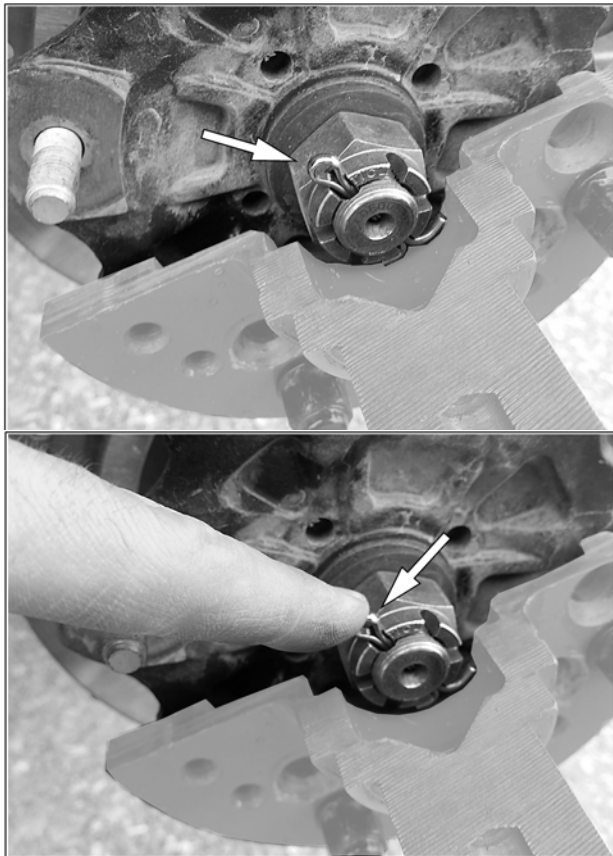

Fig. 17
- Bend head of cotter pin down toward castle nut to avoid interference with track system hub during installation. There must not be any resistance when track system is installed on vehicle's wheel hub. See Fig. 17